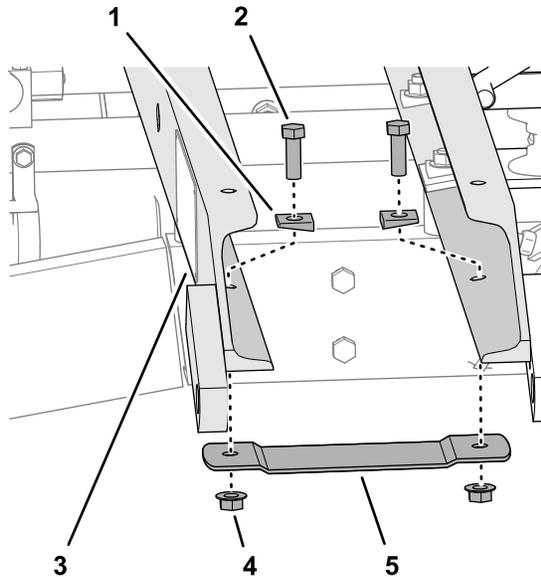

Figure 8
- Align the holes in the cylinder rest with the 12.7 mm (1/2 inch)-diameter holes in the bottom of the cross channels (Figure 8)
- Secure the cylinder rest to the cross channels (Figure 8) with the 2 capscrews (1/2 x 1-1/2 inches), 2 tapered washers, and 2 flange locknuts (1/2 inch).